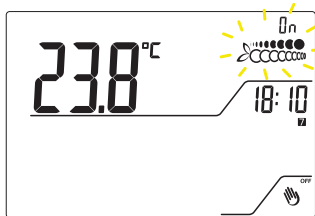

Fig.23
5.4.2 Press for 4 seconds  to switch-on the programmable thermostat. The display shows On for 3 seconds. Fig.23